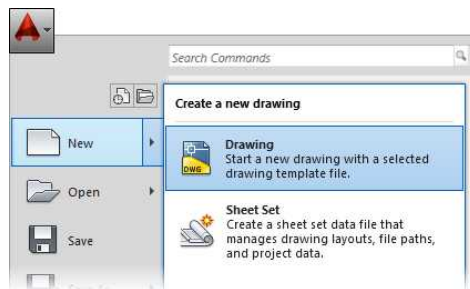

FIGURE 1.23: Opening a new drawing from the Application menu
1. To open a new AutoCAD file from the Application menu, choose **New > Drawing**, as shown in Figure 1.23.